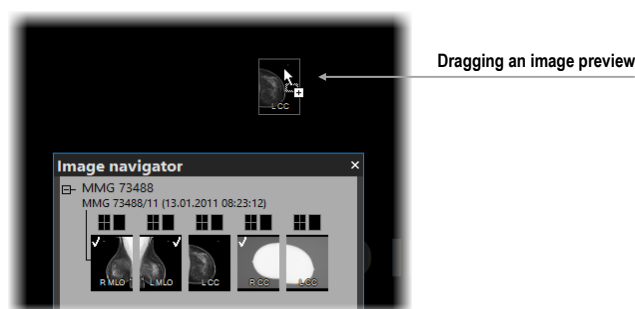

Figure 467 – Dragging an image from the study preview to the screen
- Use the drag-and-drop technique to drag the image from the study overview to the view in the workspace on the left or right monitor (see Figure 467).